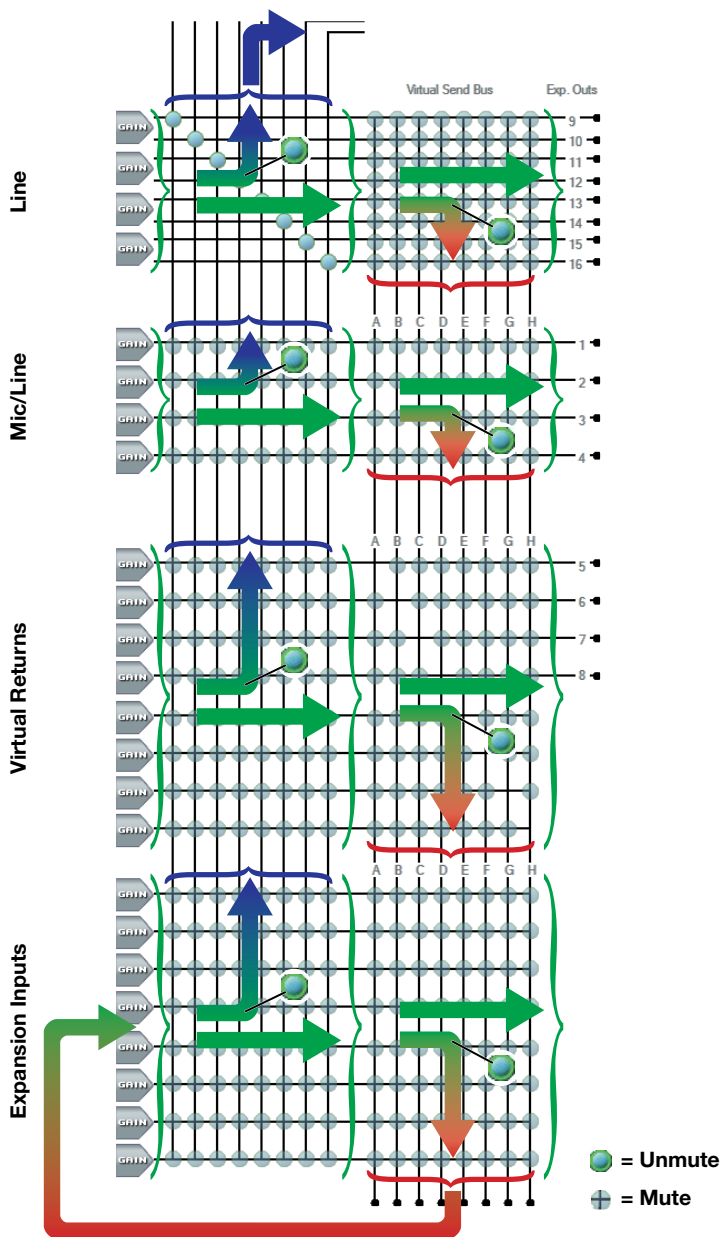

Figure 46. Simplified Mixer Signal Flow
- Mix-point mutes (indicated by \oplus in figure 46, a graphic representation of the mixer) do not block the horizontal signal flow. Unless muted **before** the mixer, audio always flows from left to right through the mixer.